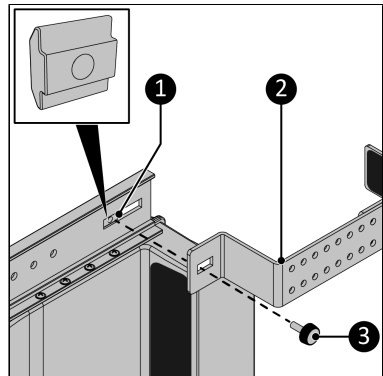

Figure 71.
7. Screw the bracket (Figure 71, pos. 2) to the main rail in the front position using the knob screw (Figure 71, pos. 3). Make sure you connect the knob screw to the slide nut (Figure 71, pos. 1).